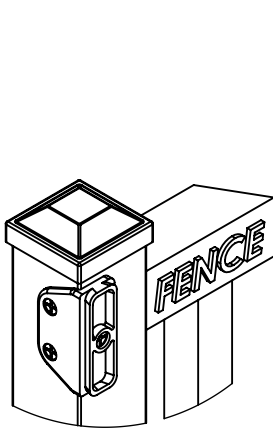

FIG. 2
STEP 2: Install the UPPER BRACKET as near to the top of the Fence post as possible using (3) Countersunk Screws. (Fig. 2)